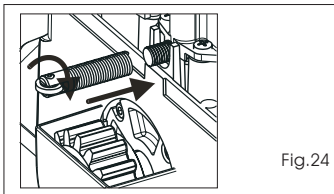
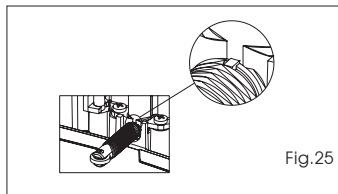
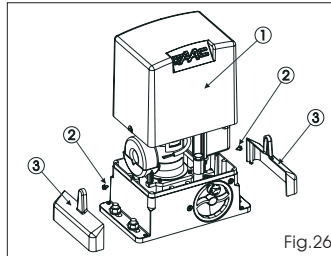

Fig.24
Fig.25
Fig.26
- Fit the spring turning it **clockwise**, Fig. 24, until the stop is reached; see Fig. 25.
Return the board support to its original position. Fit the cover, Fig. 25 ref. 1, and tighten the two side screws provided (Fig. 26 ref 2), and snap-fit the side panels (Fig. 26 ref.3).